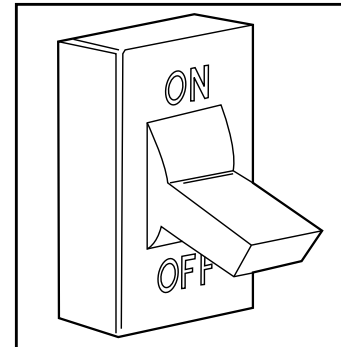

Fig. 3 - Turn Off Electrical Supply
3. Turn OFF electrical supply to the furnace. See Fig. 3.